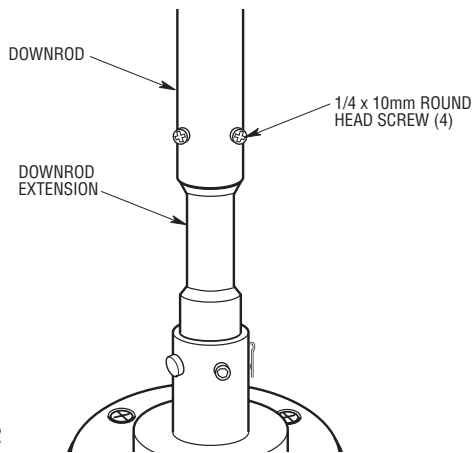

Figure 2
3. Route the motor leads and support wire through the downrod (Figure 2).